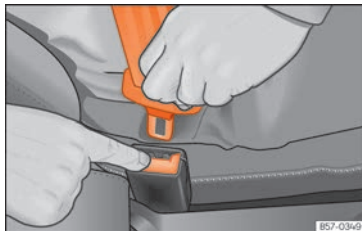

Fig. 15 Release the seat belt's buckle.
- Press the red button on the buckle »» Fig. 15. The latch plate is released from the buckle.